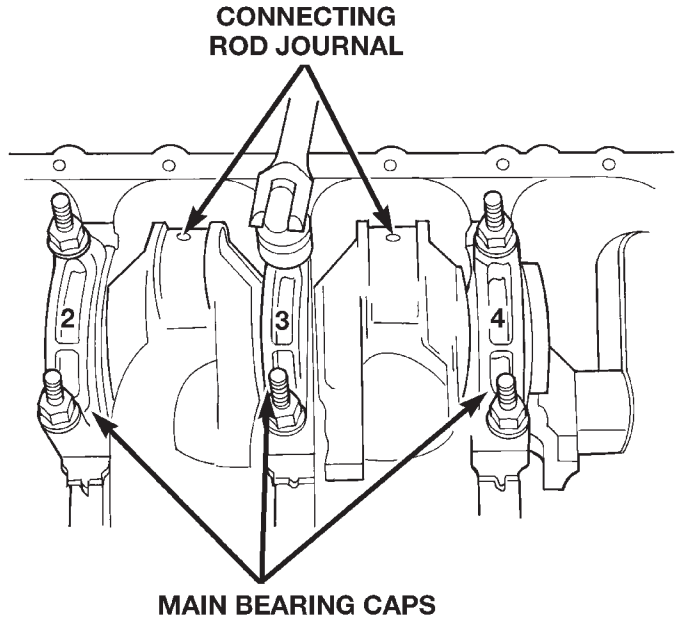

Fig. 50 Removing Main Bearing Caps and Lower Inserts
(6) Remove only one main bearing cap and lower insert at a time (Fig. 50).
(7) Remove the lower insert from the bearing cap.
(8) Remove the upper insert by LOOSENING (DO NOT REMOVE) all of the other bearing caps. Now